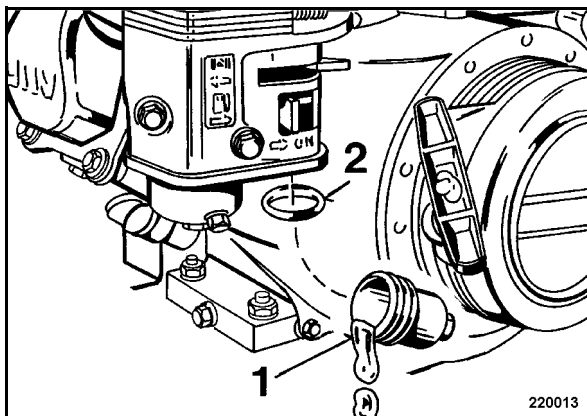

Fig. 39
- Unscrew the fuel sludge filter 1 (Fig. 39) with the fuel cock closed and wash it out with fuel.
- Turn the fuel sludge filter in tightly and mind the O-ring (2).